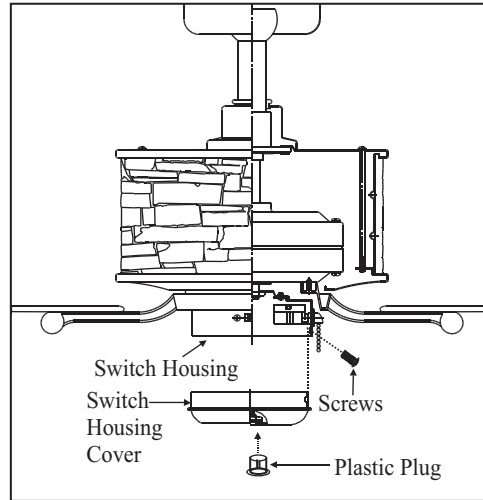

Figure 17
2. Attach the plastic plug to the switch housing cover. (Fig. 17)